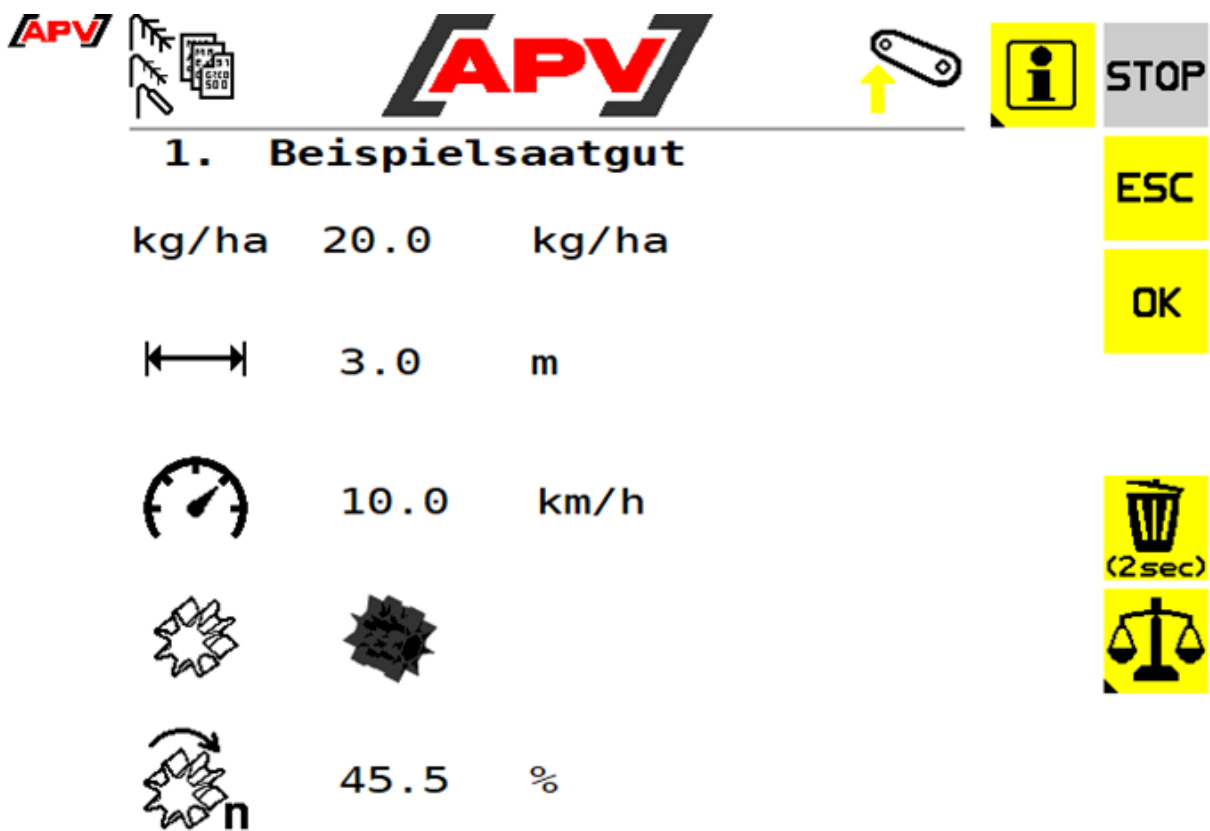

Figure 18
10. After pressing the OK button, the seed data is displayed (see Figure 18, the display elements are explained in point 6.3.1.1). If the calibration test was successful, all of the settings are already saved at this time.